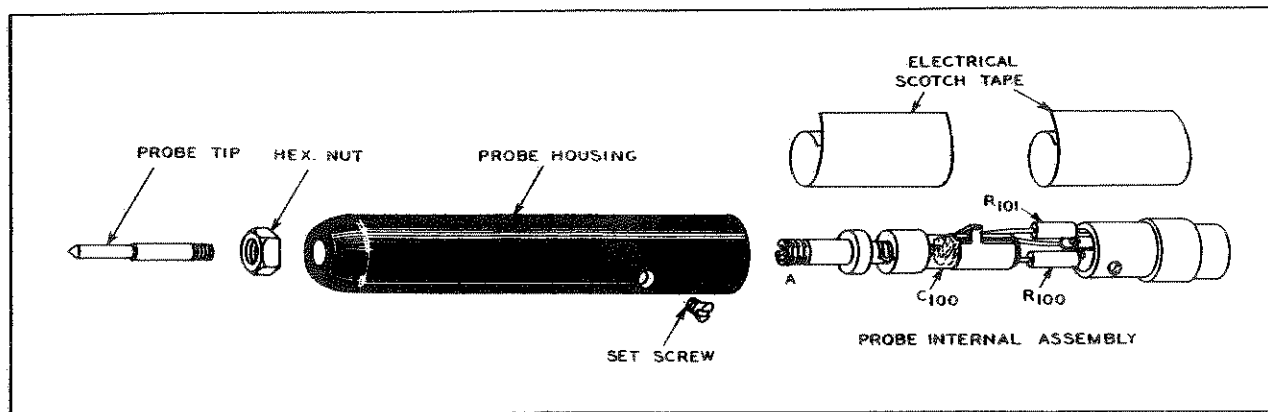

Figure 17B. Exploded View of WG-216
2. Place a small screwdriver in the hole at point A (Figure 17B), and fit it in the slot of the capacitor tuning stud (C100).
4. Remove the probe internal assembly from the probe housing by applying pressure at point A (Figure 17B).